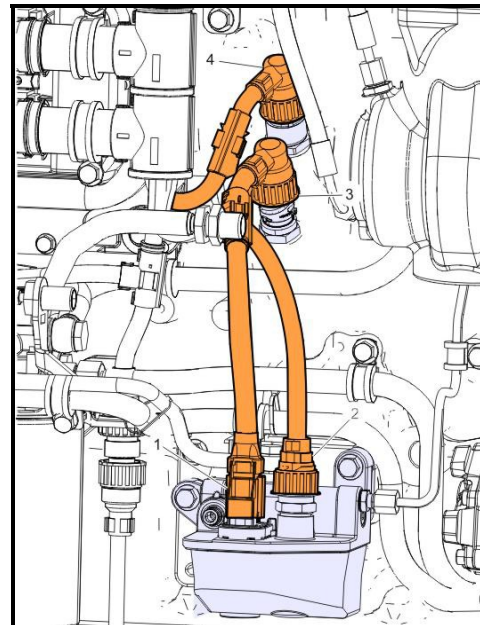

FIGURE 23
16. Connect the harness connections (fig. 23). When applicable, secure harness with existing P-clamps.